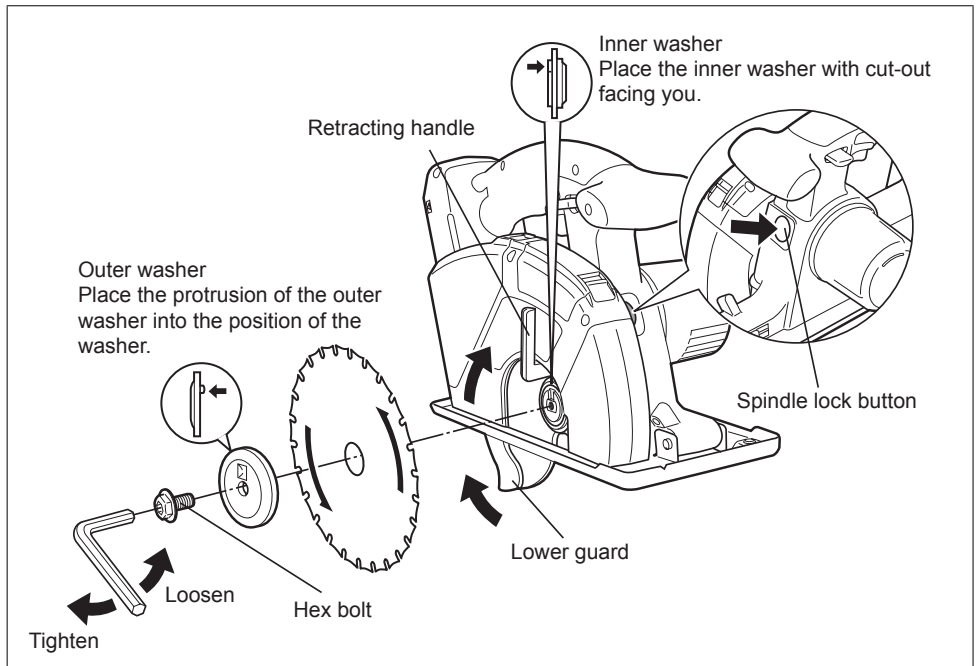

Fig.4
Make sure the hex bolt is tightened securely. [Fig.4]
4. Install the blade as illustrated. [Fig.4]